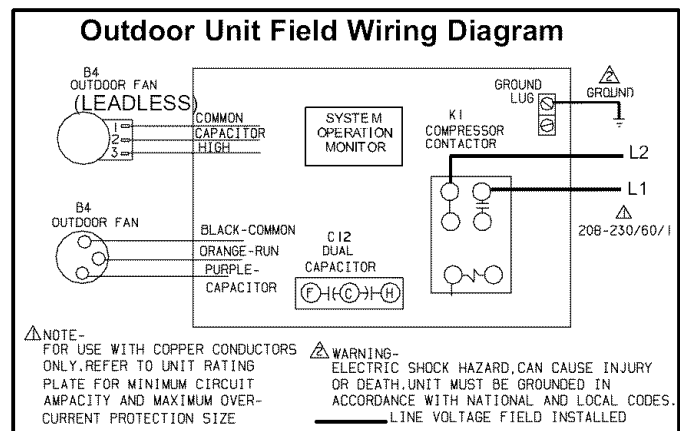

Figure 5
- 24V, Class II circuit connections are made in the low voltage junction box. Refer to figure 5 for field wiring diagram.